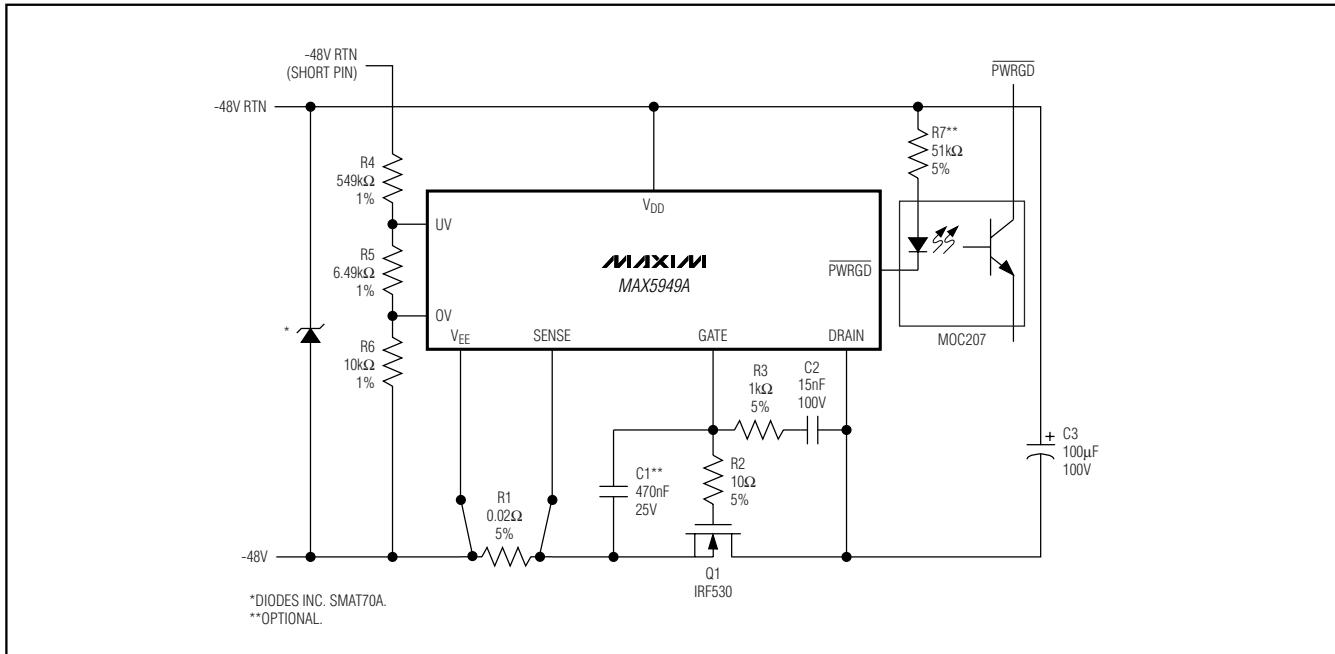

Figure 15. Using $\overline{\text{PWRGD}}$ to Drive an Optoisolator
The PWRGD signal can also be used to turn on an LED or optoisolator to indicate that the power is good (Figure 15) (see the *Component Selection Procedure* section).
- If an optocoupler is utilized as in Figure 15, determine the LED series resistor: